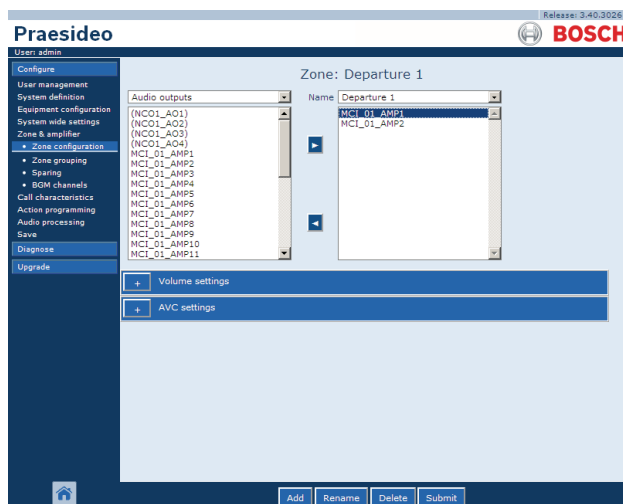

figure 46.7: Delete zone, step 1
- 1 Go to *Configure > Zone & Amplifier > Zone configuration*. A screen similar to the one in figure 46.7 appears.